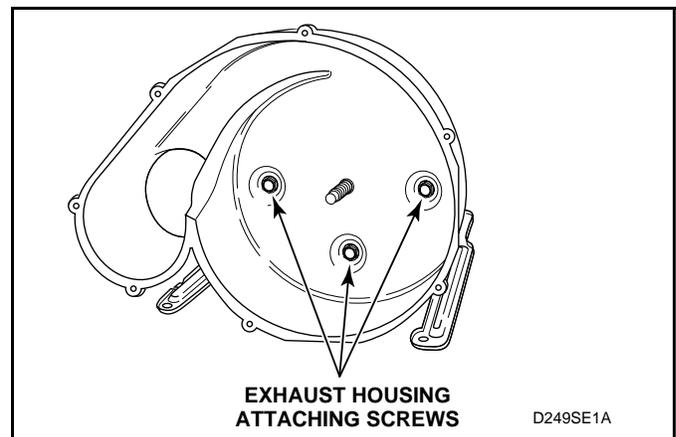

Figure 44
- (3.) Remove three screws holding the exhaust housing to the motor mounting bracket. See *Figure 44*.